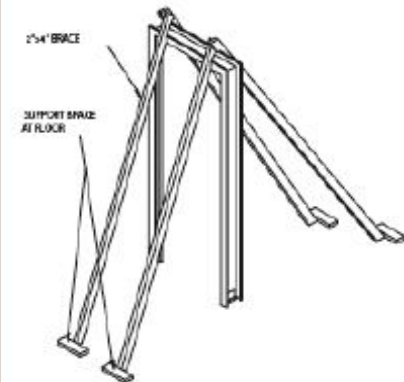

FIGURE 4
1. With frame in position (fig. 4), install temporary wood spreaders (fig.5) square and no less than 1" thick.